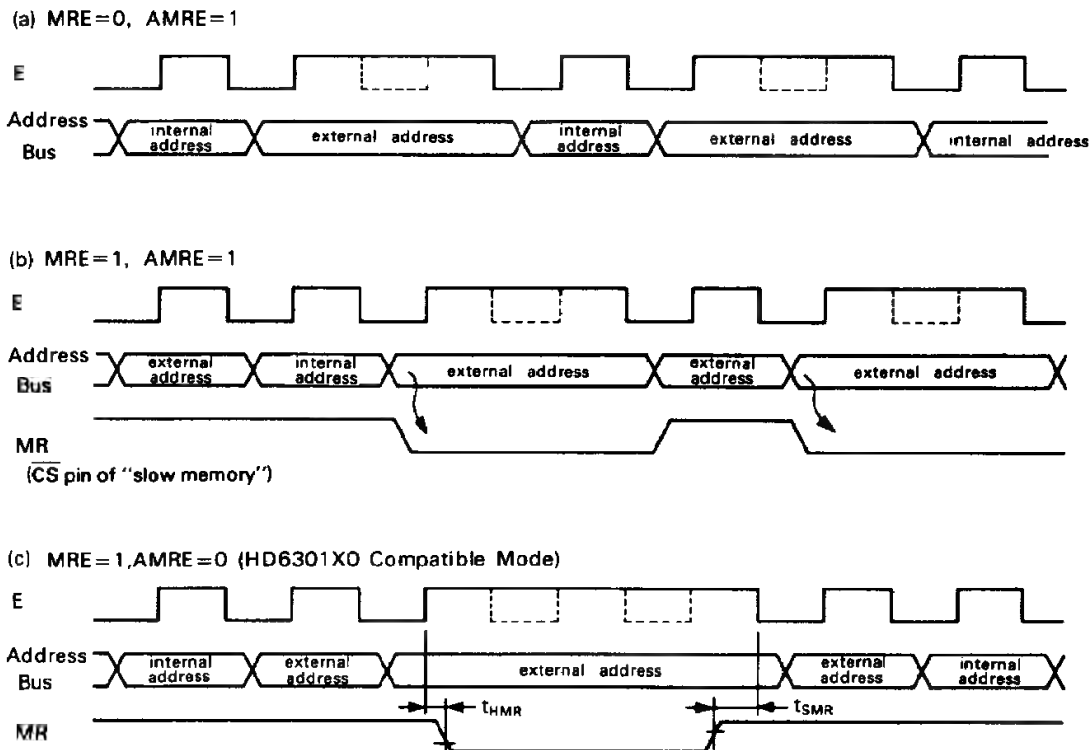

Figure 17 Memory Ready Timing
When the bit is set and the CPU accesses the external address, "memory ready" operates automatically and stretches the E clock's "High" duration for one system clock. When MRE bit of bit 2 is cleared and when the CPU accesses the external address space, the function operates. When MRE bit is set and then the CPU accesses the external address space with P₅₁(MR) pin in "low", "memory ready" operates automatically. In Mode 3, regardless of the bit value, the "auto memory ready" function is inhibited. (See Table 3 and Fig. 17.)